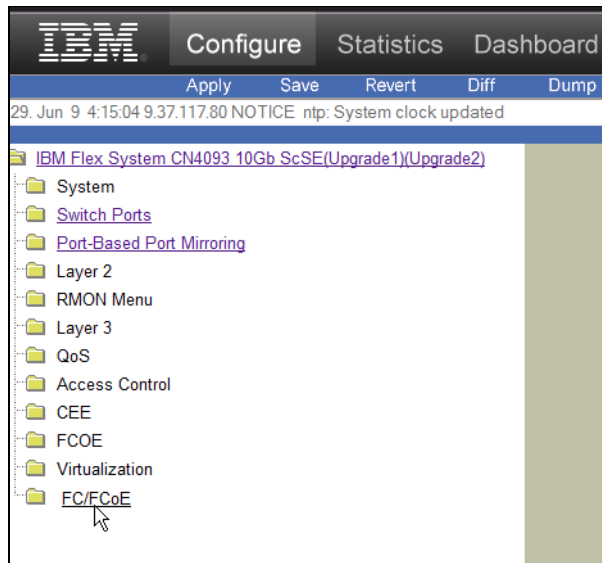

Figure 8-4 FC/FCoE folder
4. Click the **FC/FCoE** folder on the left side of your panel as shown in Figure 8-4.